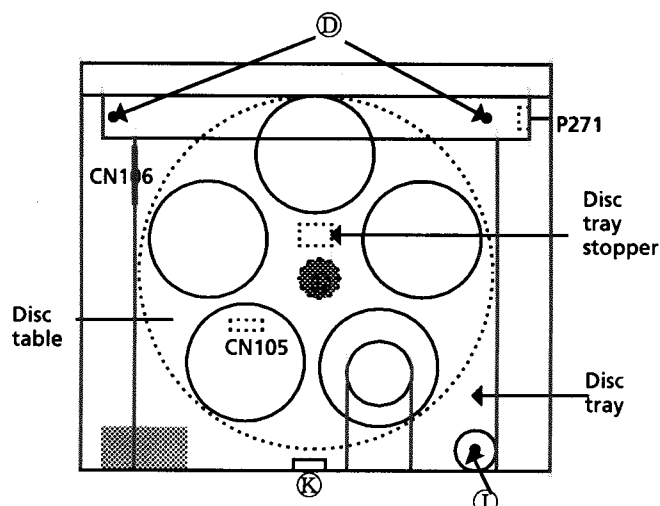

Fig 2 Top view(without the top cover)
2. Disconnect the wires CN106 and P271(Fig 2).
5. Remove the screw ①(Fig. 2).
6. Disconnect CN105(Fig. 2).
7. Slide the disc tray backward slightly. And, move the tray forward while lifting up ② to remove the disc tray from the stopper.(Fig. 2)
- (1) The level of RF output (EFM output: amplitude of eye pattern) will be low.
- (2) The drive current required by the laser diode will be increased. In such a case, check the life of the laser diode following the flowchart below.
(3) Measurement of laser diode drive current (Fig.2)
Cut the jump wire (W320) and add a 1Ω resistor. (See the following Fig.2)
(Fig.2)